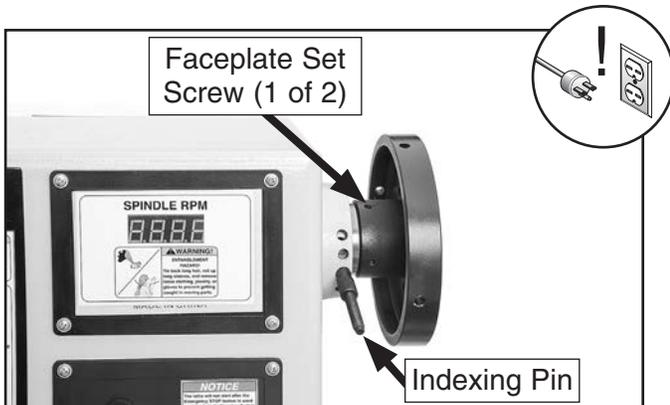

Figure 26. Locking spindle with indexing pin and faceplate set screw.
2. Insert indexing pin into an indexing hole and rotate spindle until pin engages to prevent spindle from turning while you tighten faceplate, as shown in **Figure 26**.
4. Using included 4mm hex wrench, tighten two set screws along inside diameter of faceplate to secure it to spindle (see **Figure 26**).